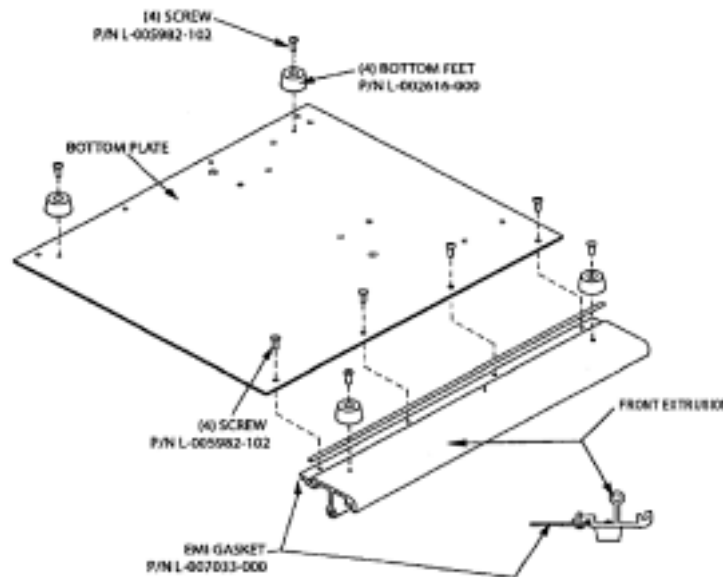

FIGURE 4-46.
3. Install the EMI gasket (P/N L-007033-000) into the groove in the front extrusion. See Figure 4-46. Verify the gasket is flush with both ends of extrusion.